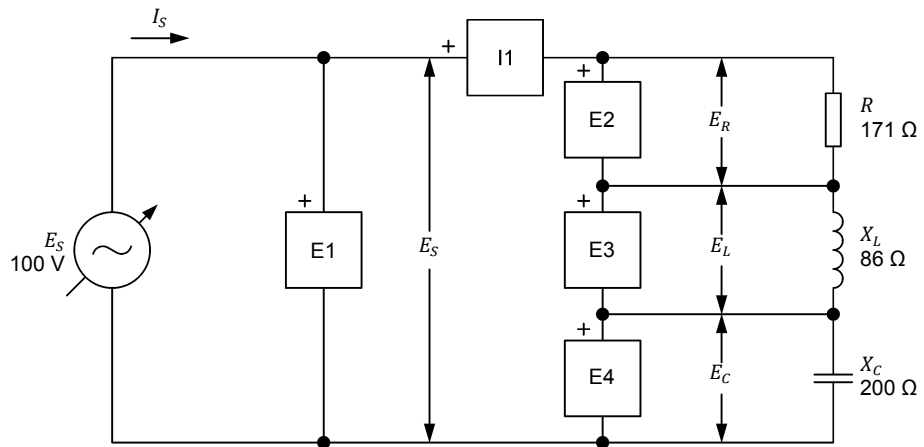

Figure 4-6. Series ac circuit containing a resistor, an inductor, and a capacitor, and set up for circuit analysis.
14. Set up the circuit shown in Figure 4-6.
15. Resolve the entire circuit shown in Figure 4-6 using the impedance calculation method.